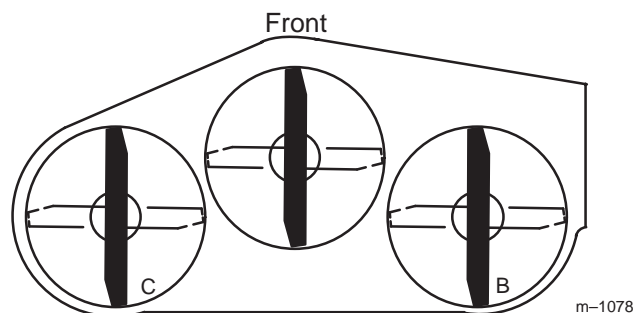
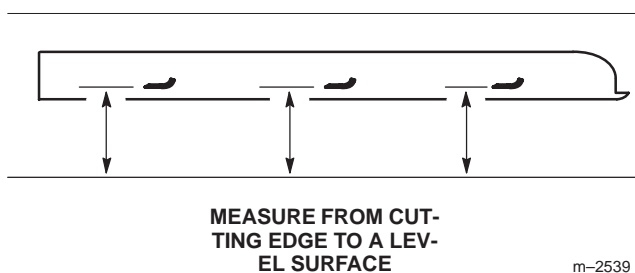

Figure 61
Figure 62
1. Position the **right** blade front-to-rear (Fig. 61).
2. Measure the right blade at the **B** location (Fig. 61), from a level surface to the cutting edge of the blade tips (Fig. 62).
4. Position the **left** blade front-to-rear (Fig. 61).
5. Measure the left blade at the **C** location (Fig. 61), from a level surface to the cutting edge of the blade tips (Fig. 62).